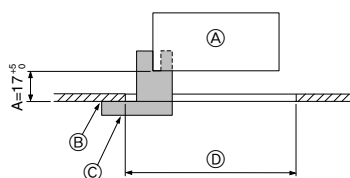
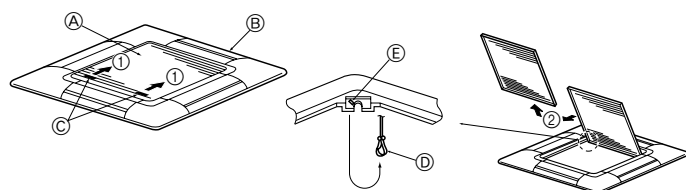
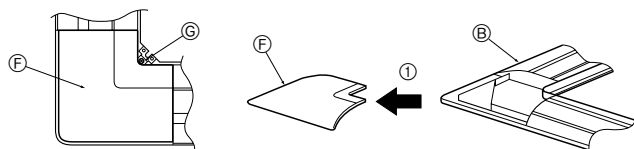

Fig. 9-2
Fig. 9-3
Fig. 9-4
9.2. Preparing to attach the grille (Fig. 9-2)
- With the gauge ③ supplied with this kit, adjust and check the positioning of the unit relative to the ceiling. If the unit is not properly positioned relative to the ceiling, it may allow air leaks or cause condensation to collect.
- Ⓒ Gauge ③ (inserted into the unit)
9.2.1. Removing the intake grille (Fig. 9-3)
- Slide the levers in the direction indicated by the arrow ① to open the intake grille.
- With the intake grille in the "open" position, remove the hinge of the intake grille from the grille as indicated by the arrow ②.
9.2.2. Removing the corner panel (Fig. 9-4)
- Remove the screw from the corner of the corner panel. Slide the corner panel as indicated by the arrow ① to remove the corner panel.